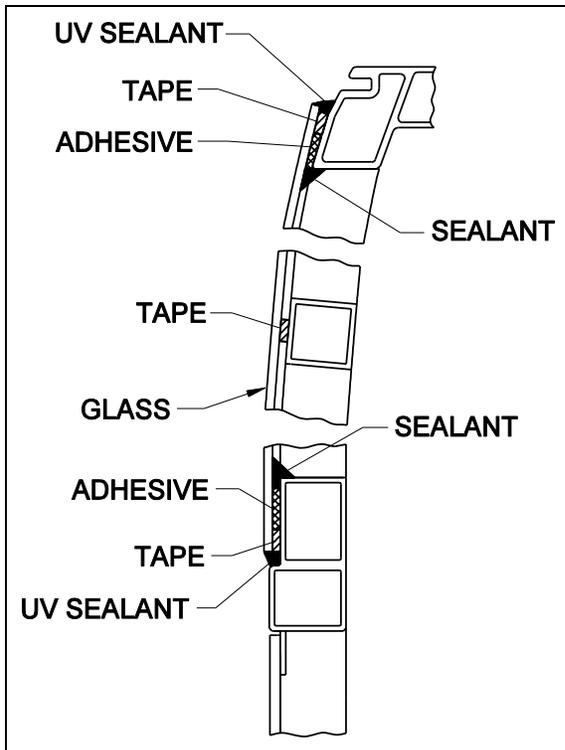
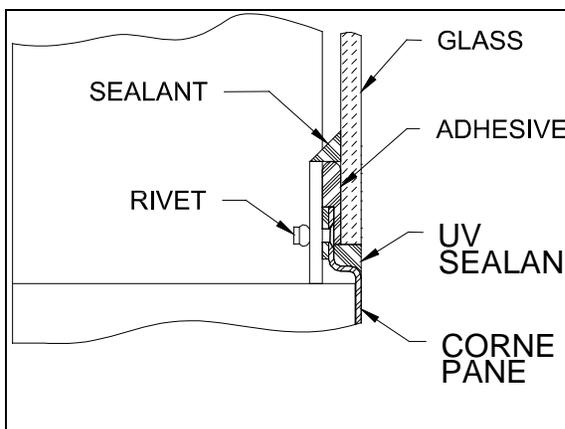

FIGURE 47 : WINDOWS ABOVE SIDE PANELS
FIGURE 48 : WINDOW LOCATED OVER THE CORNER PANEL
Refer to procedures described in Prevest maintenance manual. Refer to figure 47 and figure 48 for tape, sealant and adhesive position.
2. Apply appropriate double face self adhesive tape on the slide-out structure (figure 47).